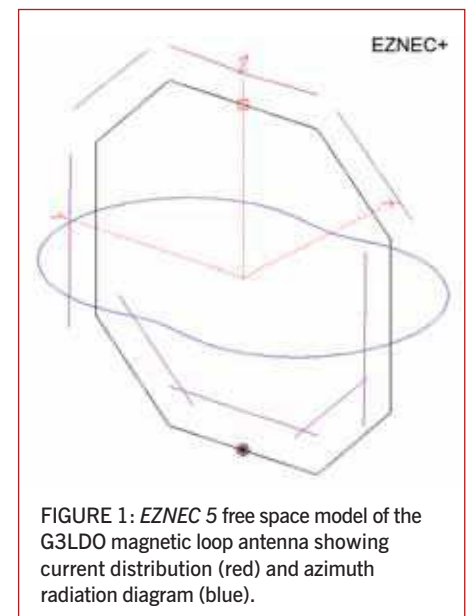

FIGURE 1: EZNEC 5 free space model of the G3LDO magnetic loop antenna showing current distribution (red) and azimuth radiation diagram (blue).
**OTHER COMMENTS ON THE LOOP.** One of the oddities of the model shown in **Figure 1** is that the nulls in the sides of the azimuth plot are not very deep compared with a free space dipole. Measuring the nulls of the real loop using a selective level meter resulted in nulls of  $-20\text{dB}$  on one side and  $-11\text{dB}$  on the